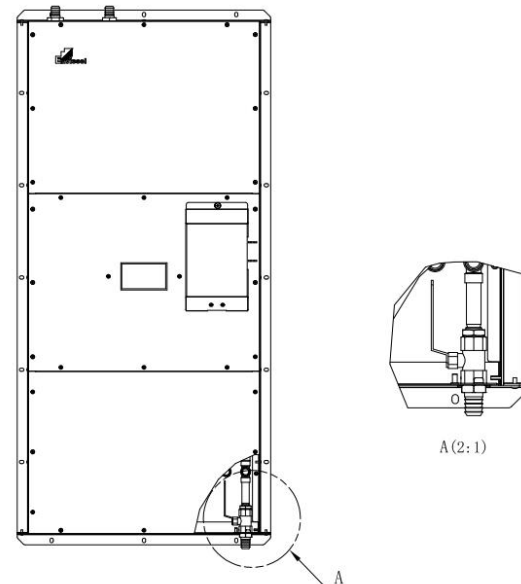

Fig. 4.1.3 Ball valve of make-up port of water chiller
3. Open the front lower cover plate of the water chiller, find and open the ball valve of the liquid filling port, as shown in Figure 4.1.3;